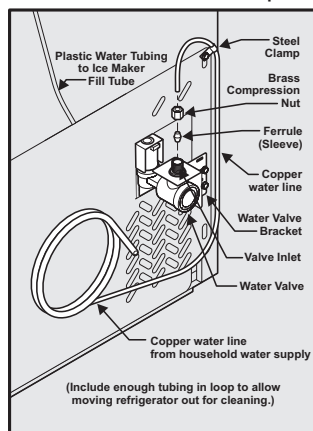

Figure 1
4. **If you use copper tubing** - Slide brass compression nut, then ferrule (sleeve) onto water supply line. Push water supply line into water valve inlet as far as it will go (¼ inch / 6.4 mm). Slide ferrule (sleeve) into valve inlet and finger tighten compression nut onto valve. Tighten another half turn with a wrench; **DO NOT** over tighten. See Figure 1.